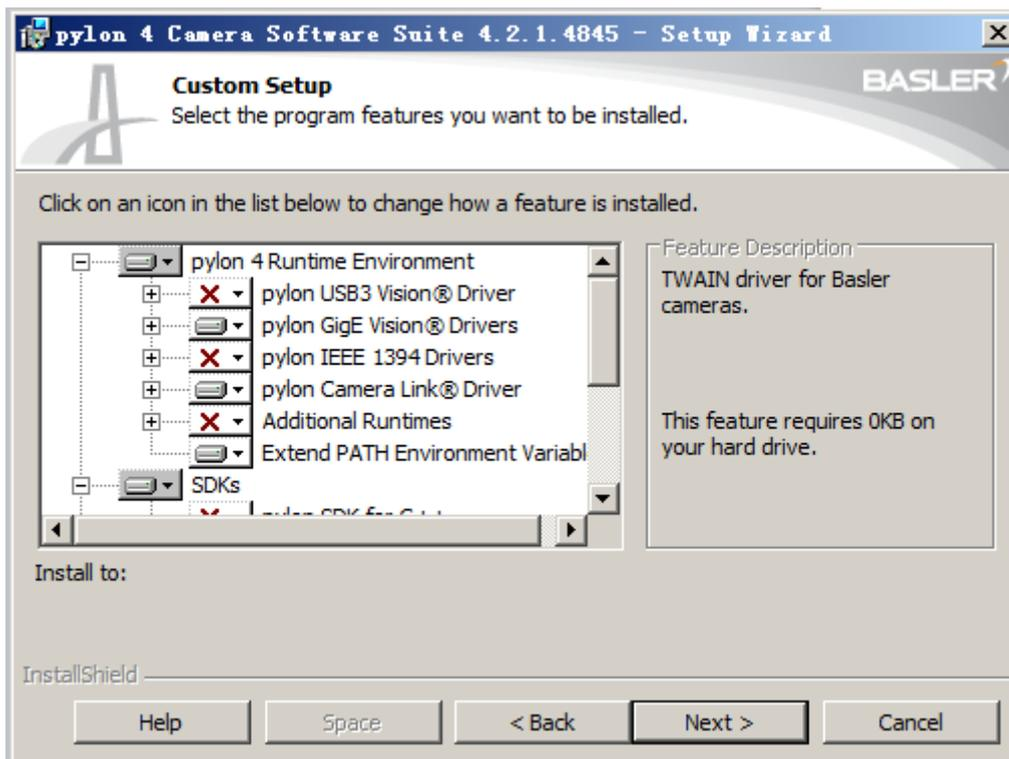
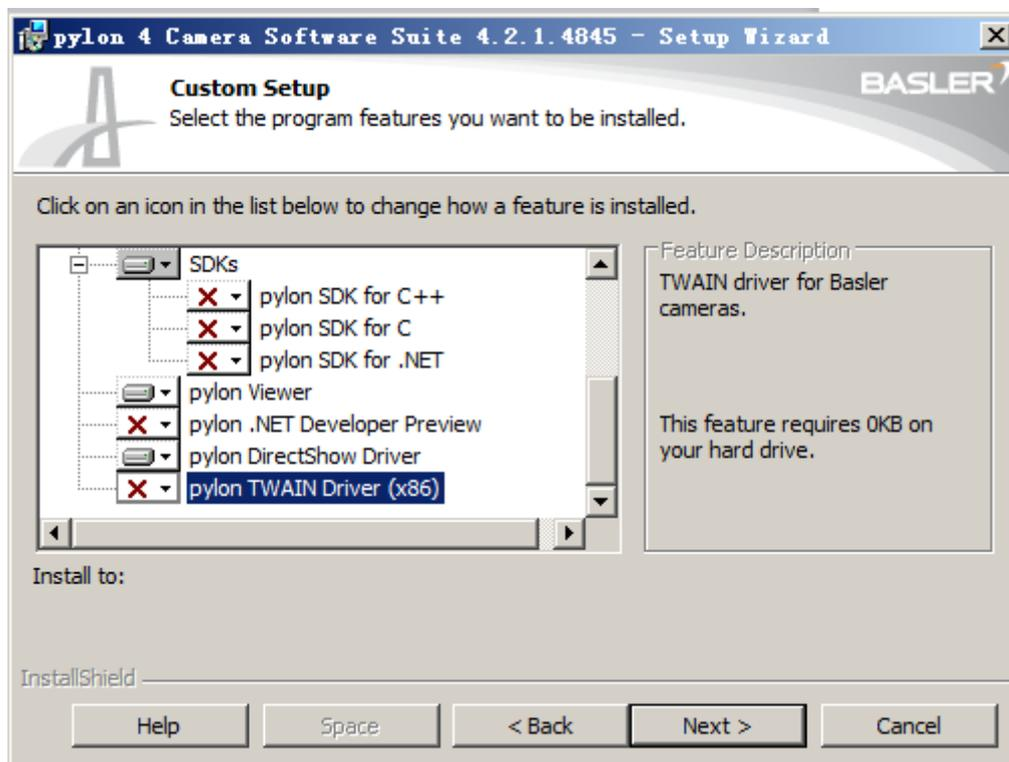

Figure 56
Figure 57
5. Click 'Next' button, according to the functions shown in figure 56 and figure 57;